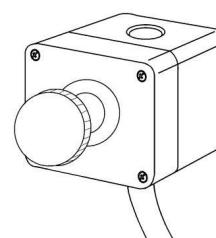

Fig 33
The machine will stop when you push the red OFF-button (B) or the remote OFF-switch (Fig 33).
The remote OFF-switch (Fig 33) stops the machine.